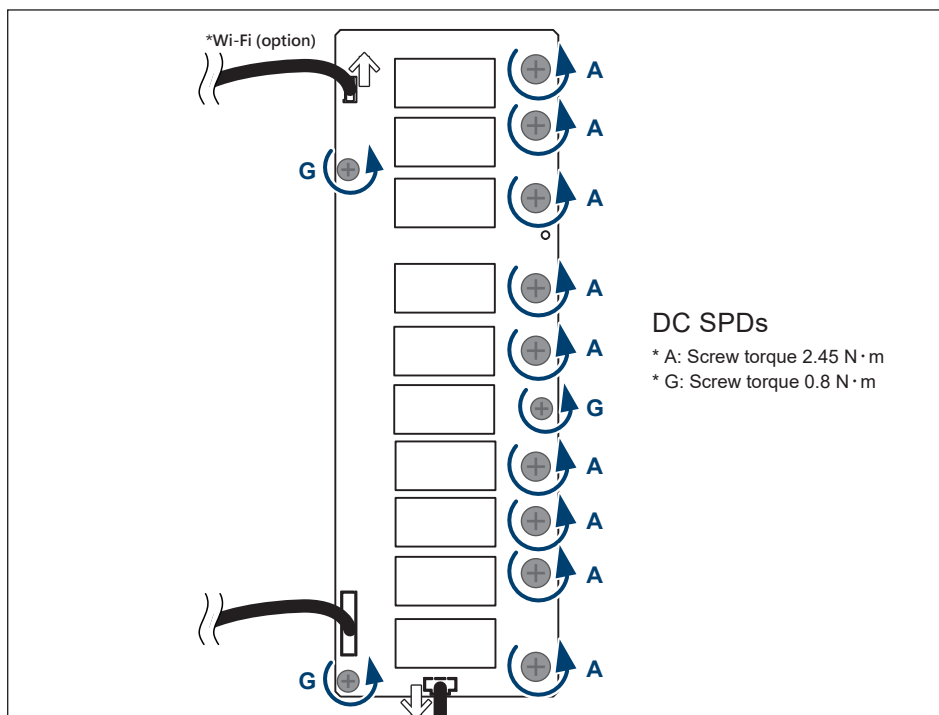

Figure 5-7: Remove wirings as connectors of DC SPD
- **To remove the defective DC SPD (Figure 5-7)**
Tighten the 12 screws to a torque value shown in **Figure 5-7**.